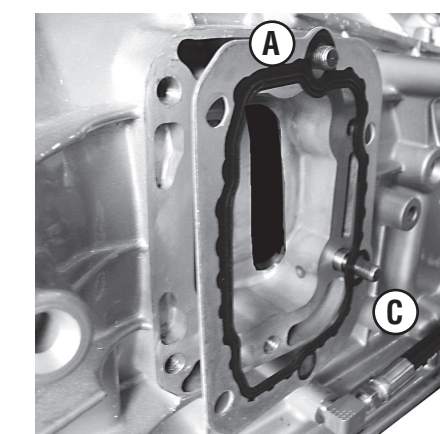

Figure 2. Shoulder bolt locations.
3. Reinstall the transmission gasket that was removed in Step 4 of the IN03-01 Installation & Owner's Manual back onto the transmission, making sure the larger holes in the gasket/shim are located directly over the two shoulder studs (A & C). (See Figure 2)